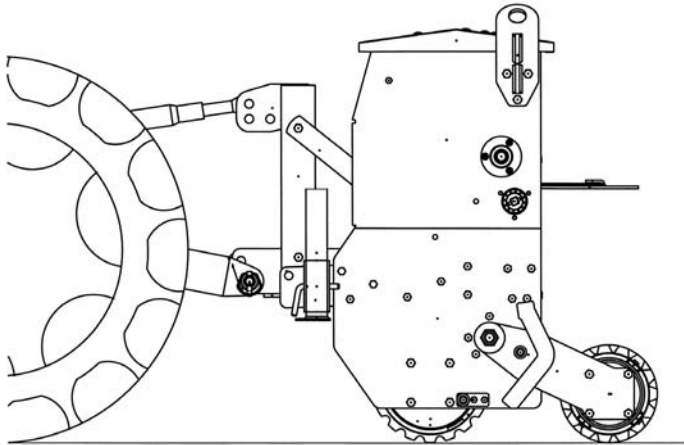

Fig. 4
9. When working, make sure the Seed-Rite has its full weight riding on the rollers (see fig. 4).
The lower hitch pins (**see fig. 3**) may be put in either of 2 positions (upper or lower) depending on the tractor. Optional hitch blocks are available for use on tractors with non standard three point hitches. Secure the two arms with the lynch pins. Tighten the tractor arms side movement with either the sway chains or blocks to limit side swing to 2"-3". Connect the top link, locking it in place with the top hitch pin. Adjust it so the Seed-Rite is as near parallel to the ground as possible. A 1° to 2° rearward tilt is acceptable (**see fig. 4**).